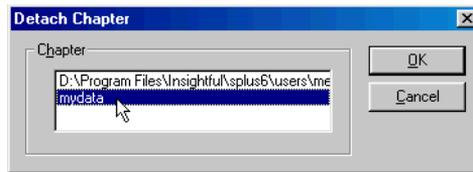

Figure 7.18: *The Detach Chapter dialog.*
- From the main menu, choose **File ► Chapters ► Detach Chapter**. In the **Detach Chapter** dialog (see Figure 7.18), select the database you want to detach and click **OK**.